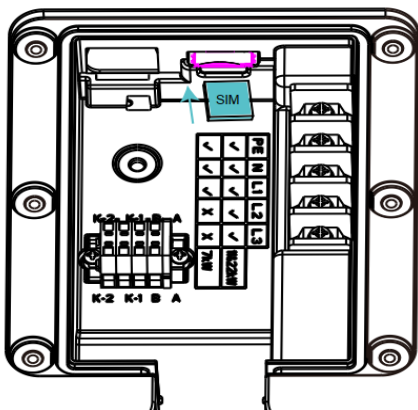

Figure. 14 Insert the SIM card
⑧ After completing the wiring, insert the SIM card, as shown in Figure. 14.